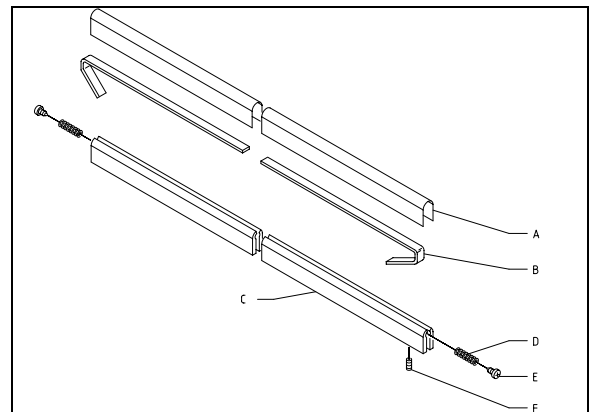

Fig. 8-5: Replace wire
Removing old wires: (Fig. 8-5):
2. Remove the teflon lining (A) that is stuck to the beam (Fig. 8-5).
3. Remove the screws (F) at both end of the seal beam.